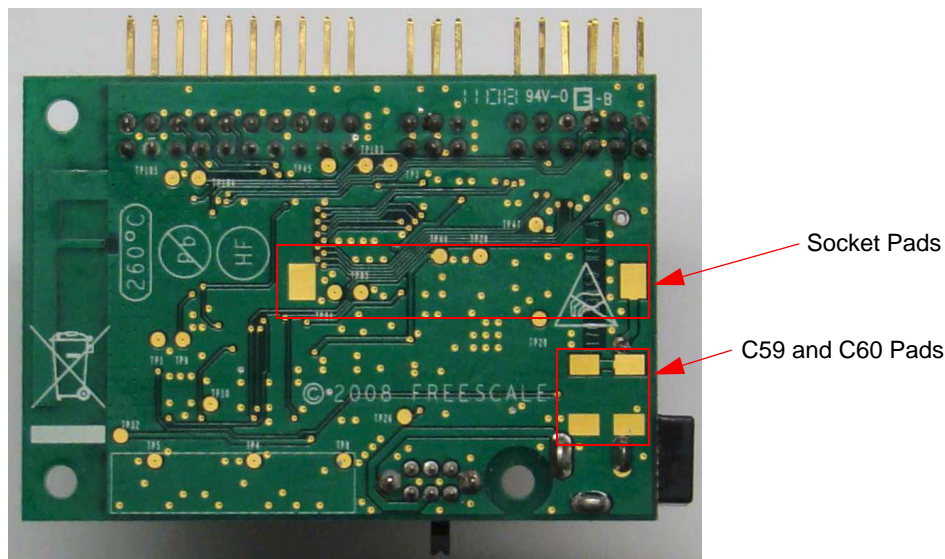

Figure 3-6. 1322x-LPN PCB Bottom View
- The bottom view of the MC1322x-LPN is shown in Figure 3-6.